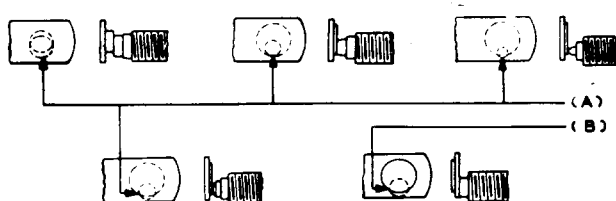

Fig. 1 - Contact Alignment
- (a) Fig. 1(A) - The point of contact shall fall wholly within the circumference of the opposing contact disc except for opposing contacts having the same diameter, in which case, the centers shall not be out of alignment more than 25 per cent of the diameter of the contact points. This requirement shall be met with the horizontal play of the armature taken up in both directions.
- (b) Fig. 1(B) - On screws not having a contact, the point of contact of the stop screw shall rest wholly within the surface of the contact spring. This shall be checked with the horizontal play of the armature taken up in both directions.